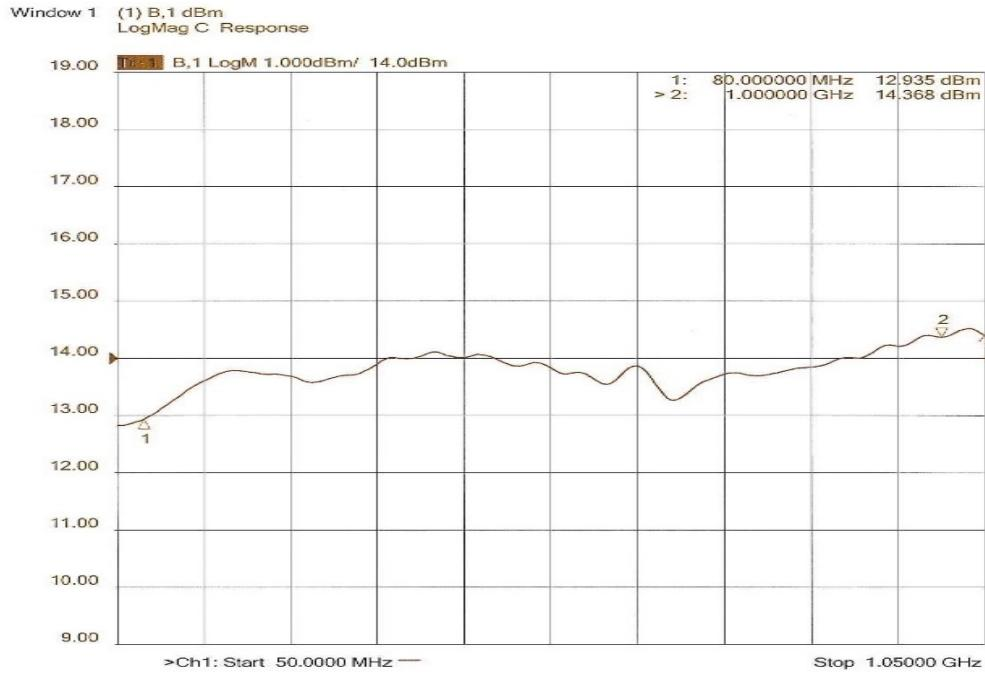

**Figure 4-6. Typical Eight-Way Splitter Insertion Loss**
4. 8-way splitter performance (A4, A5) and the 12-way combiner performance (A22) is displayed in Figures 4-6 and 4-7.